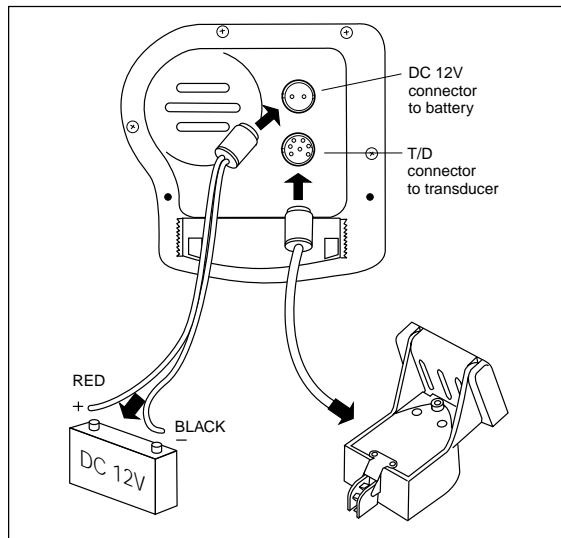

Fig. 2-16
3. It is very important that you connect the power leads correctly. See Fig. 2-16. At the power source, connect the **red** wire to the **positive** terminal (+), and the **black** wire to the **negative** terminal (-). The negative terminal may also be called "ground" or "earth." (The display unit is internally protected if you accidentally reverse the polarity of the power wires.)